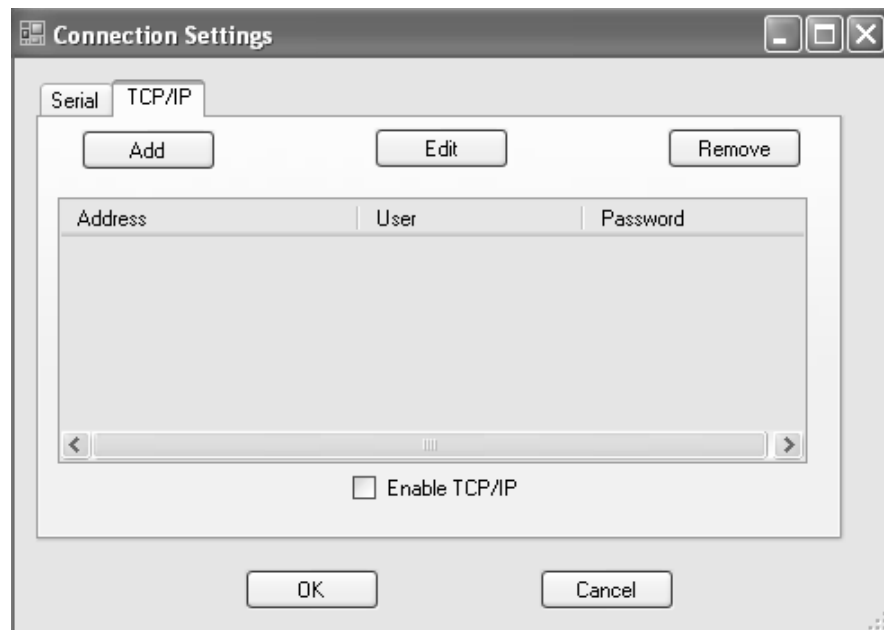

Fig. 2-7. Screenshot of 'TCP IP' selection in the 'Connection Settings' dialog box. TCP/IP connection setting is established here.
- In the Main menu of UGA control software, select 'Connection Settings'. The 'Connection Settings' dialog box will pop up as shown in Fig. 2-7.